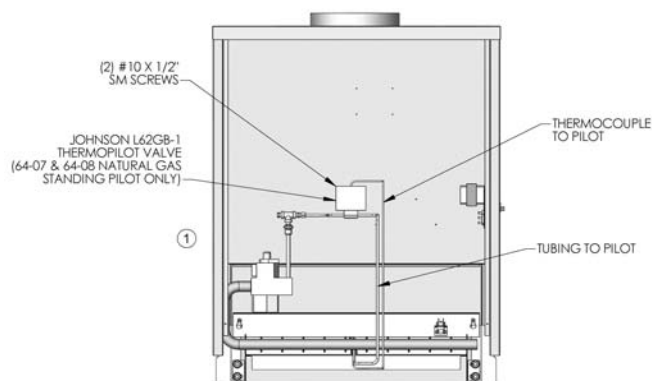

Figure 7.5
- Mount the thermopilot valve (Johnson L62), if required (standing pilot only on 64-07 & 64-08 Natural Gas), as shown in Figure 7.5.